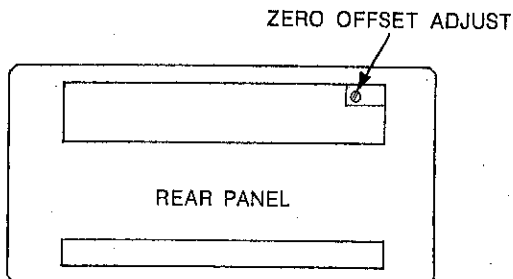

Figure 4-1. Zero Offset Adjust
A zero offset screw adjustment is located at the rear panel. This adjustment has a nominal range of 2.0° . The unit is furnished with this adjustment set to zero. In some applications it may be desirable to offset this adjustment to compensate for some system error or minor synchro misalignment. Simply insert a small screwdriver or alignment tool through the hole provided and adjust as necessary (figure 4-1). Set switch SW1-2 to ON for a + (plus) offset and to OFF for a - (minus) offset.
c. Adjust rear panel reference offset potentiometer for an exact 000.00 reading on the Model 801 front panel display (refer to figure 4-1). To obtain the correct reading, DIP switch SW1-2 +Offset (Table 2-3) may need to be set either to the ON (+) or OFF (-) position depending upon the offset needed.
c. Adjust rear panel reference offset potentiometer for an exact 000.00 reading on the Model 801 front panel display (refer to figure 4-1). To obtain the correct reading, DIP switch SW1-2 Offset (table 2-3) may need to be set either to the ON (+) or OFF (-) position depending upon the offset needed.
- (1) 10 degree steps (000.0 - 350 degrees)
- (2) 1 degree steps (1 - 9 degrees)
- (3) .1 degree steps (.1 - .9 degrees)
- (4) .01 degree steps (.01 - .09 degrees)
If any of the previous recorded resolver or synchro readings are not within specifications, adjust Display Offset (figure 4-1) potentiometer located at rear of unit so that the largest positive and negative errors are of equal magnitude. If, after balancing the worst case positive and negative errors, the unit does not perform to rated specifications (±.05 or ±.03), consult the factory.